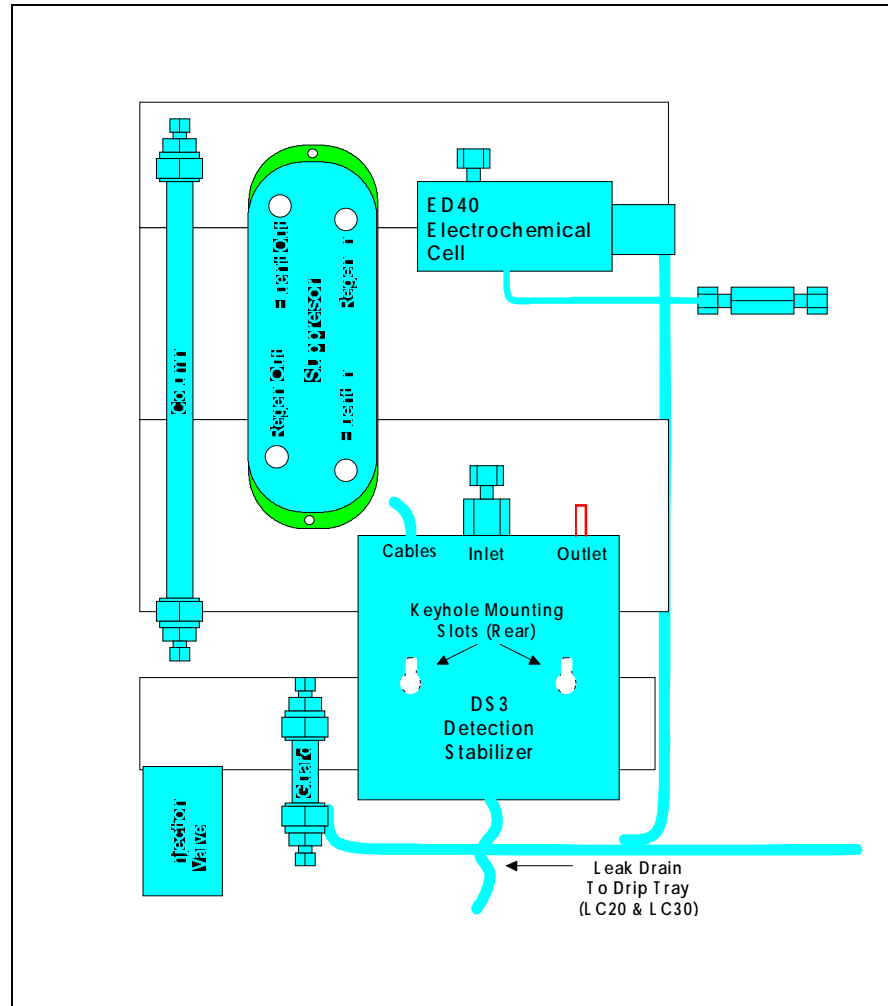

Figure B-6. Typical DS3 Installation in LC20 or LC30
5. Plug one end of the cable into TTL2-OUT on the rear panel of the pump. The TTL connectors are located behind the upper door. Route the cable through the upper chases of the pump and the ED40. Plug the other end into TTL3 IN on the ED40 (see Figure B-6).